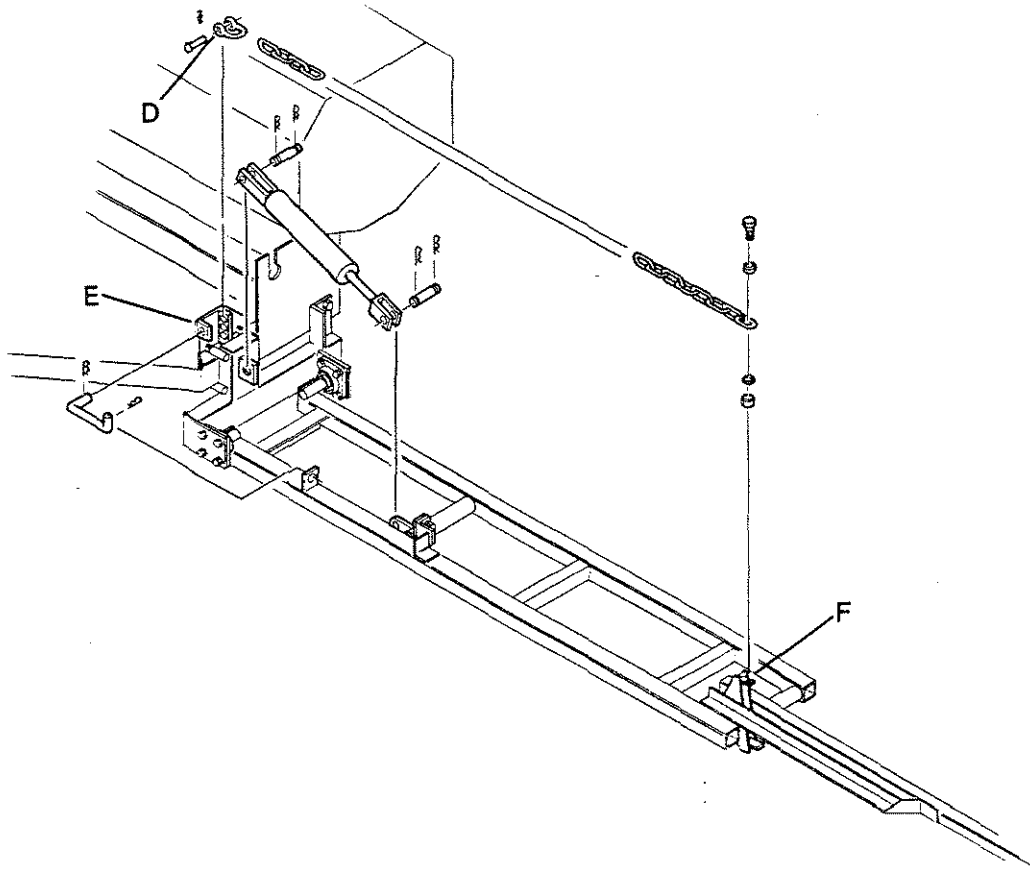

Figure 2
3. Insert clevis (D) through chain (see fig. 2) and attach to center hole of chain mount (E). Determine length of chain necessary to allow 1" to 1½" slack with marker extended horizontally and attach chain to chain track (F) with one ¾" x 1¼" long bolt, flatwasher, lockwasher and hex nut.